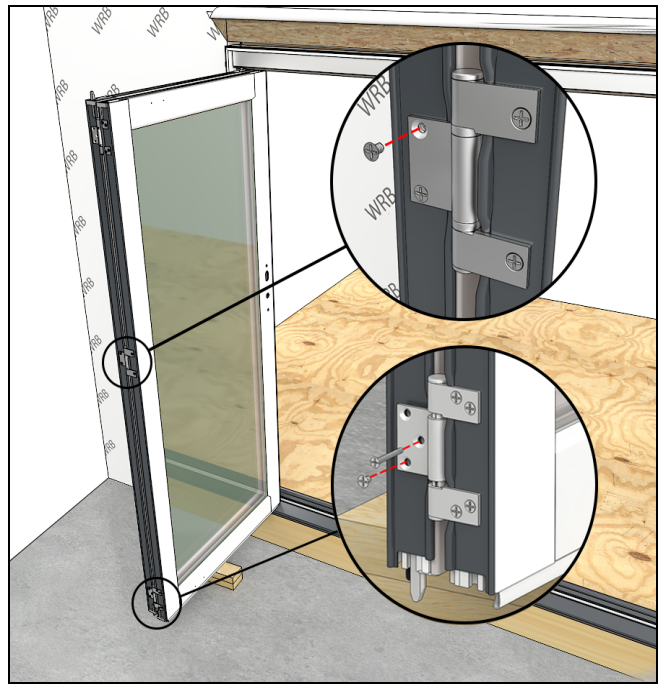

Figure 39
6. Locate the next panel and, using a support block, fasten it to the previous panel. Fasten the hinge leaves without set screws interfering first. See Figure 39.